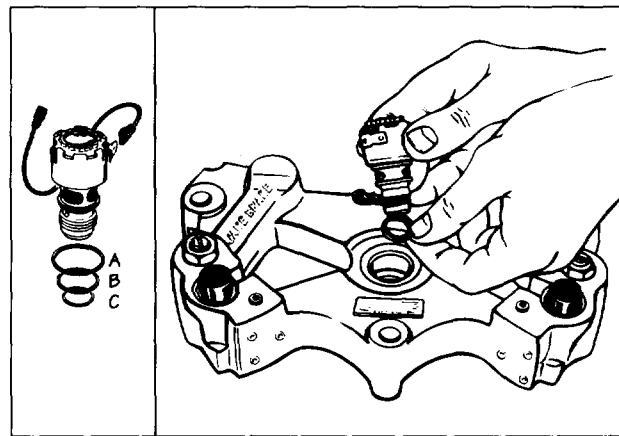

FIG. 2
4. Coat the new solenoid seal rings with clean lube oil. Install the upper (A, Fig. 2) and center (B) seal rings on the solenoid body and the lower (C) seal ring into the bottom of the solenoid bore in the housing.